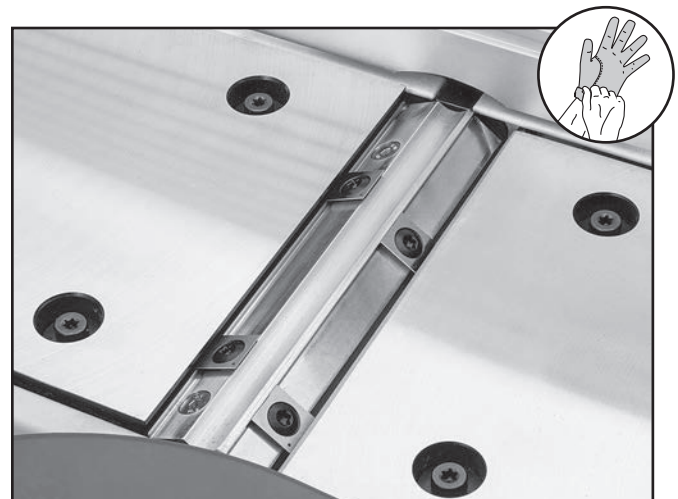

Figure 35. Cutterhead area cleaned.
3. Loosen (2) button head cap screws securing cutterhead guard to jointer base, then remove cutterhead guard.
5. Carefully clean away all sawdust or debris from top of insert, Torx screw, and surrounding area (see **Figure 35**).